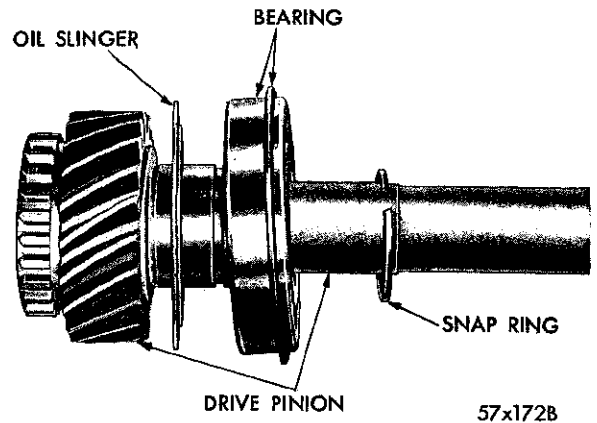

Fig. 5—Drive Pinion Assembly
snap ring pliers. Carefully press the pinion shaft out of the bearing, using an arbor press. Remove the oil slinger (Fig. 5).
(1) Place the oil slinger on the main drive pinion with the offset outer portion next to the drive pinion teeth (Fig. 5).
(2) Place the main drive pinion bearing on the pinion shaft with the outer snap ring away from the pinion gear.
(3) Press the bearing into position so it is seated firmly against the oil slinger and pinion gear.
(4) Install the bearing retaining snap ring on the pinion shaft, using snap ring pliers Tool C-3301. Be sure the snap ring is seated in its groove. (The snap ring should be selected to eliminated end play.)
(5) Coat the 15 pilot roller bearings with heavy lubricant and install them in the cavity at the rear of the main drive pinion.